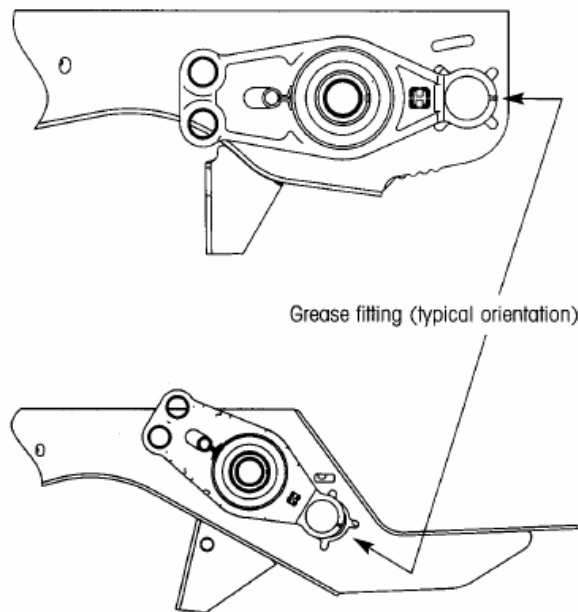

Fig. 7
Step 2. Align grease fitting to allow easy access (fig. 7)